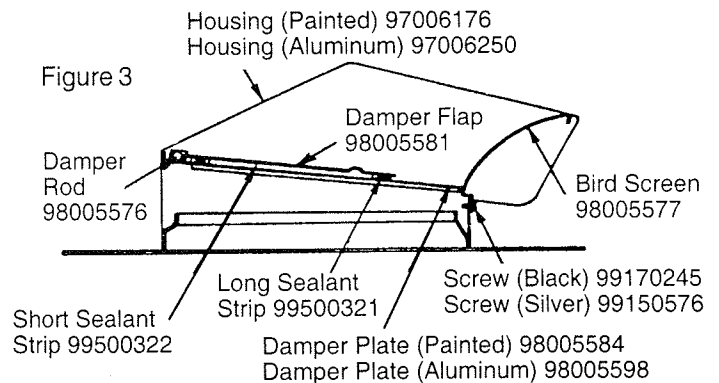

Figure 3
Plan installation carefully. Before installing roof cap, make sure that birdscreen is in place. Refer to Figure 3 under "MAINTENANCE" section.
1. Remove birdscreen, using sharp pointed tool. Pull screen down and pop it out. (Figure 3)